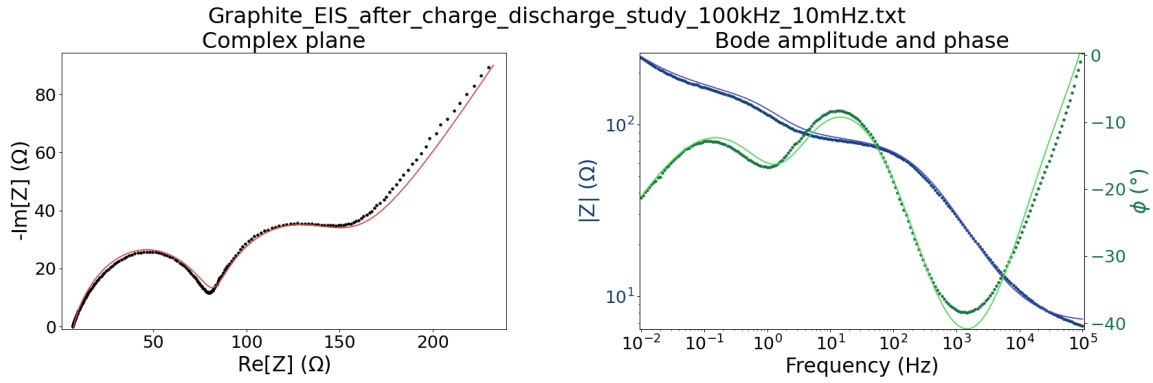

Figure 31: C||Li impedance spectrum after tuning n_2 , Q_2 , and R_2 .
12. Now, the final corrections before automatic refinement should be made. First, L_0 should be increased to around 1.7×10^{-6} H to better describe the phase data at the highest frequencies. On the other end of the spectrum, Q_0 should be decreased to 3.2×10^{-2} Fs^{n-1} . Then, Q_2 can be decreased as well, to 2.4×10^{-3} Fs^{n-1} . The result is Figure 31.